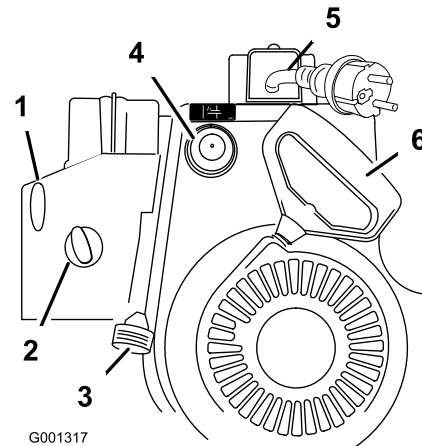

Figure 15
7. Start the snowthrower using the recoil starter or the electric starter (Figure 15).